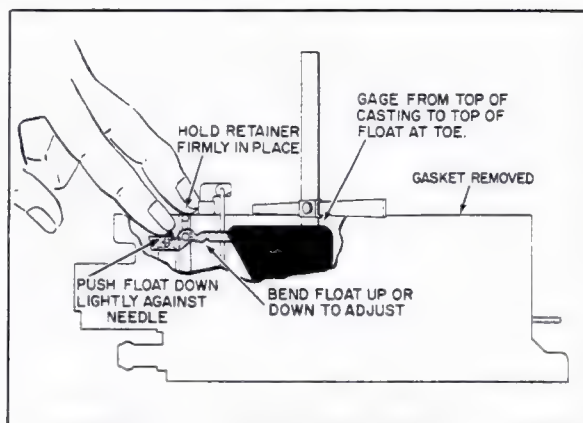

Fig. 6-76 Float Level Adjustment
### 79. Float Adjustment (Fig. 6-76)
2. With adjustable T-scale, measure from top of float bowl gasket surface, with gasket removed, to top of float at toe, Fig. 6-76. Locate gage point  $1/16$ " back from radius on toe.